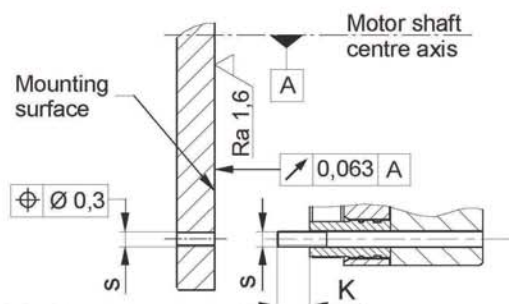

Fig. 5
- ☐ On hub designs (Type 8012._1._3), the hub bore (10) tolerances and the shaft must be selected so that the hub toothing (10) is not widened. Widening of the toothing leads to the rotor (3) jamming on the hub (10) and therefore to brake malfunctions. Recommended hub - shaft tolerance H7/k6. If the hub (10) is heated for better joining, the O-ring (11) must be removed beforehand and re-mounted after hub installation. The max. permitted joining temperature of 200 °C must not be exceeded.
- ☐ Dimensioning of the key connection according to the requirements shaft diameter, transmittable torque and operating conditions must be carried out. For this, the corresponding user data must be known or the customer must carry out the dimensioning according to the valid calculation basis DIN 6892. For the calculation, a hub quality of Re = 300 N/mm² should be used. The length of the key should lie over the entire hub (10).
- ☐ The mounting dimensions and the screw-on surface s with depth K + 2 mm (K = screw projection) acc. Catalogue or applicable assembly drawing must be given (Fig. 5).